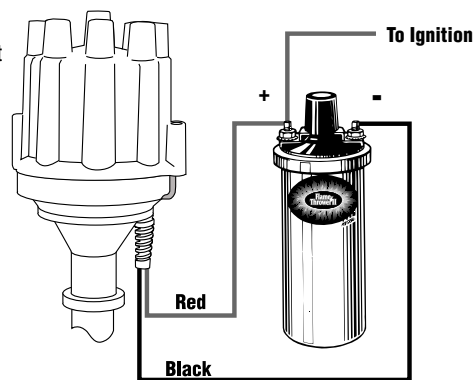

FIGURE 3
- Attach the black Ignitor II wire to the negative coil terminal. Attach the red Ignitor II wire to the positive coil terminal. (See Figure 3)